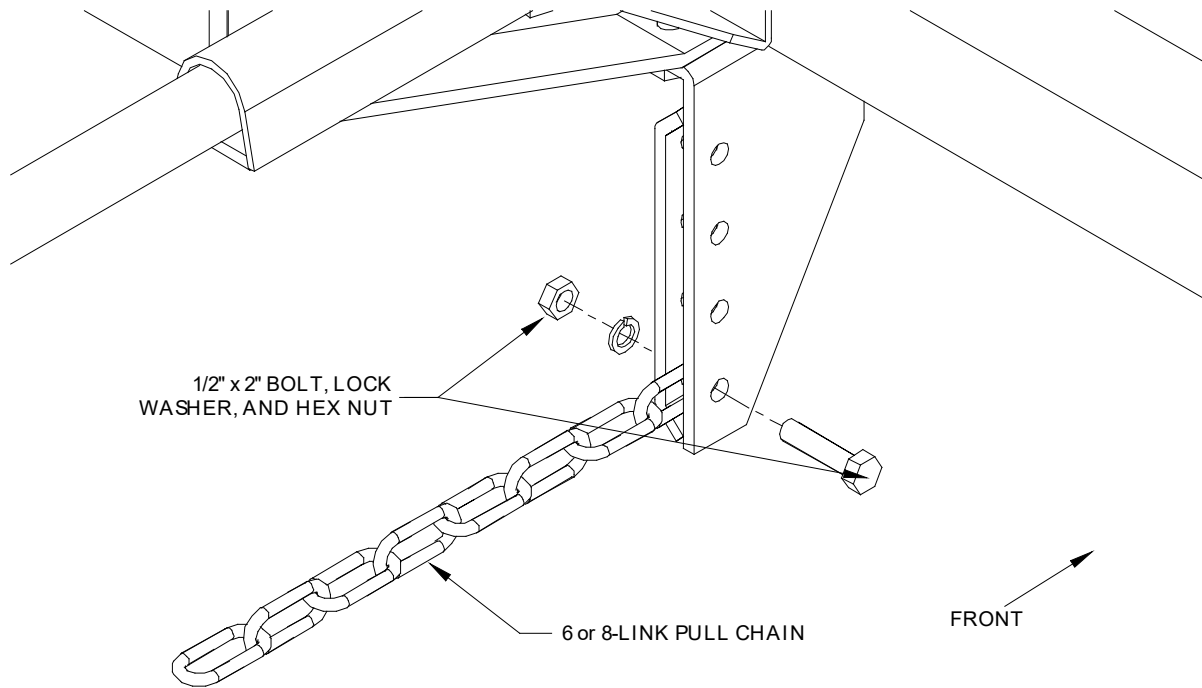

Figure 17
Attach an 8-link pull chain to each of the pull points. Refer to Figure 17. Use a 1/2" x 2" bolt, lock washer, and hex nut. There should be one pull chain for each of the pull points.
Attach a 6-link pull chain to each of the pull points. Refer to Figures 17 and 18. Use a 1/2" x 2" bolt, lock washer, and hex nut. There should be one pull chain for each of the pull points.
2. Attach the pull chains as shown in Figure 17 and 25; use 1/2" x 1 1/2" bolt, flat washers, lock washers, and hex nuts. Make sure the pull chains are not twisted, or binding may occur during transporting or when the harrow is being used in the fields.